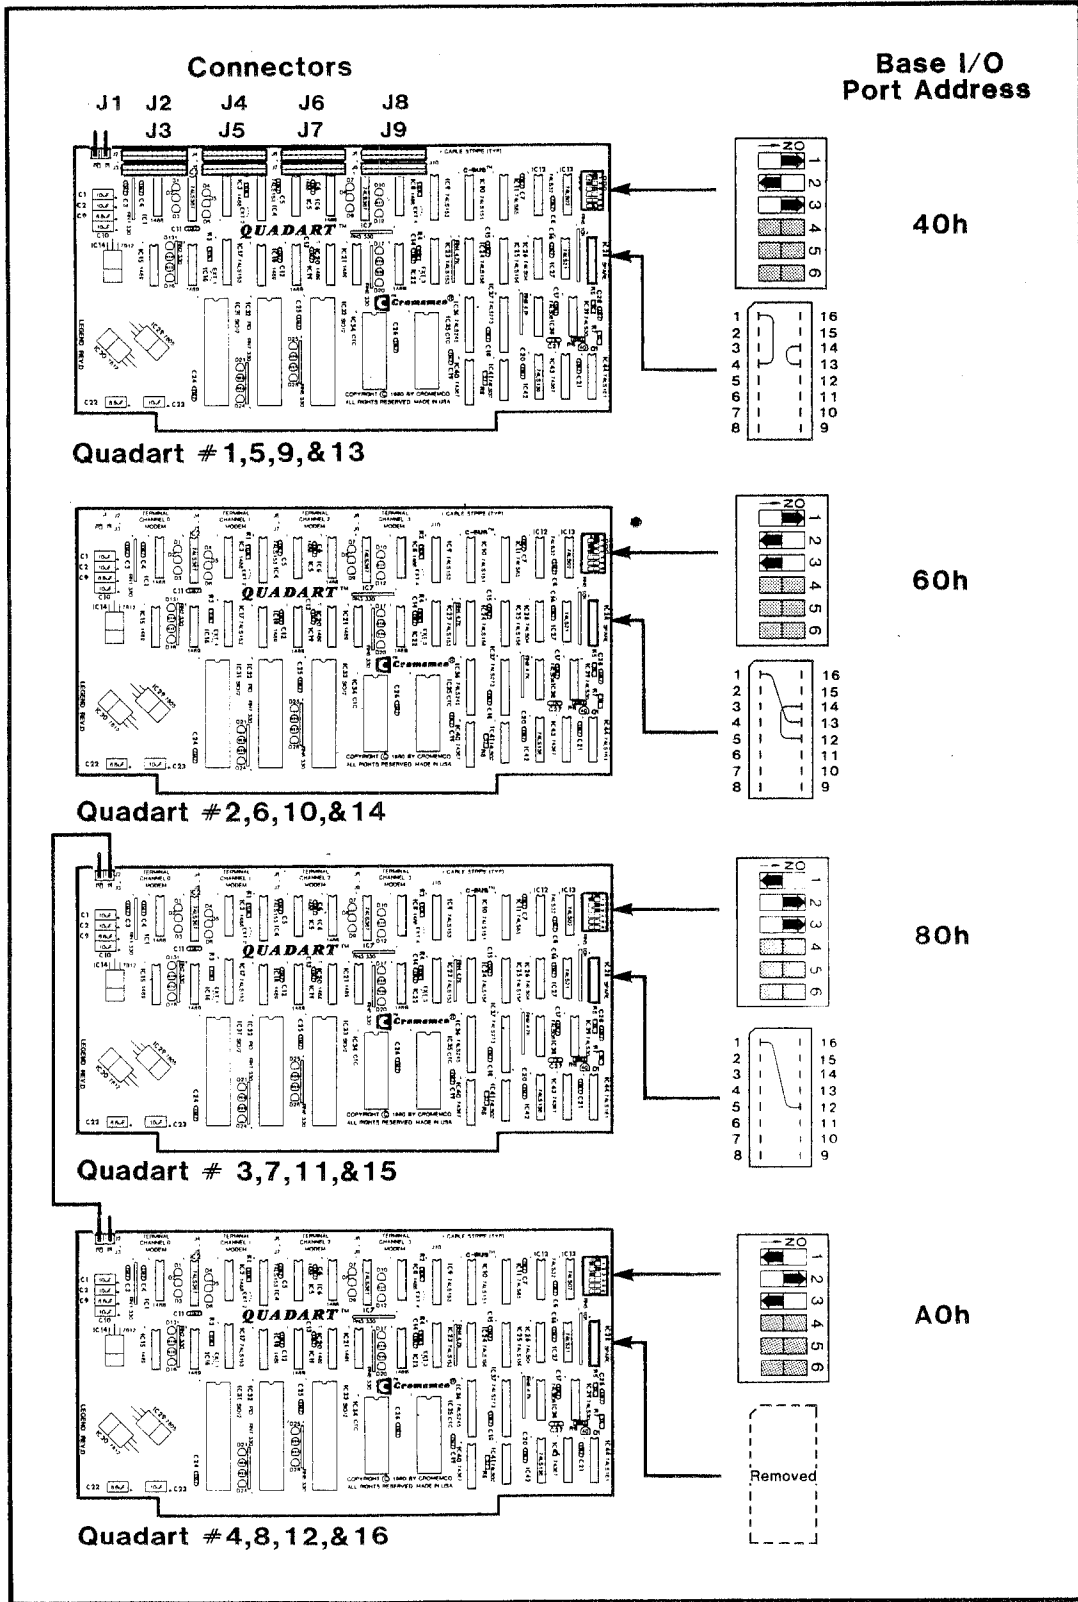

Figure 6-4: QUADART SWITCHES AND JUMPERS
2. Set Quadart switch SW-1 to select the correct C-Bus I/O base address by referring to Figure 6-4.
3. Fabricate and install a 16-pin header plug in Quadart socket IC28, wired as shown in Figure 6-4 (on Quadarts 4, 8, 12, and 16, leave socket IC28 empty). This plug establishes the C-Bus interrupt priority of this Quadart board relative to internal IOP interrupts, and to other Quadart boards connected to the same C-Bus cable. The factory-shipped header plug is wired for Quadart 1, 5, 9, and 13.
5. If four Quadart boards are controlled by one IOP board, install an external C-Bus interrupt priority cable between J1 pin 1 (PRIORITY OUT*) on Quadart 3, 7, 11, or 15, and J1 pin 2 (PRIORITY IN*) on Quadart 4, 8, 12, or 16, respectively, as shown in Figure 6-4. If three or fewer Quadart boards are controlled by one IOP board, this cable is not needed.